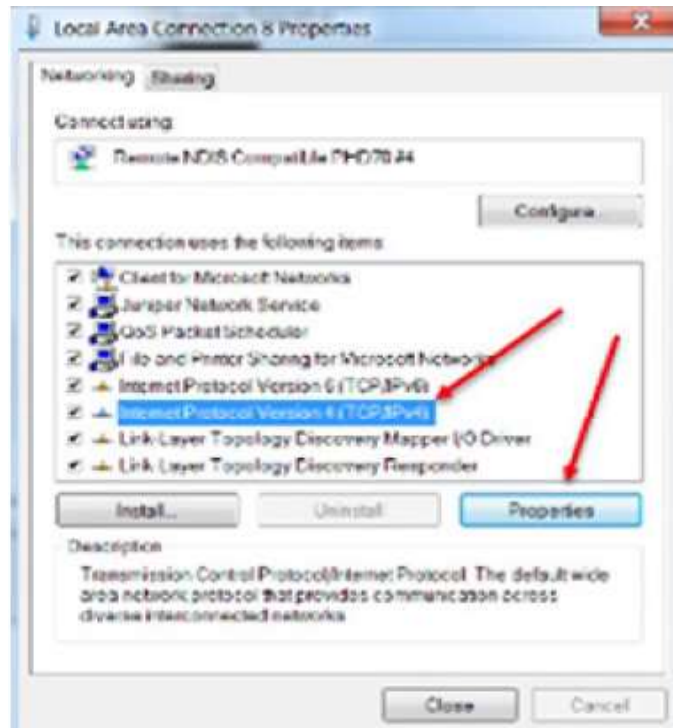

Figure 10 - Internet Protocol IPv4 Selection
b. Select **Internet Protocol Version 4** and click the **Properties** button. See Figure 10.